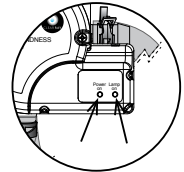

Figure 14.5g
- Once power is activated you can check the ballast, Figure 14.5g, to see if the CLEARRAY System is functioning. The power on (red) light indicates that the CLEARRAY System is being provided power and should always be on. The lamp on (green) light indicates that UV bulb is activated.